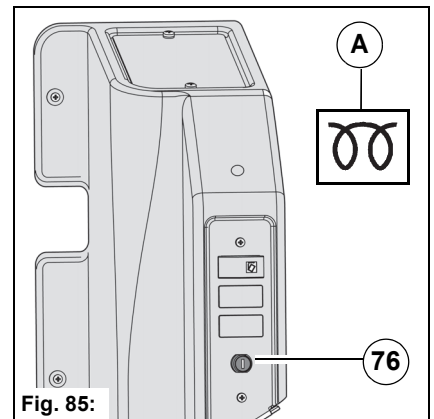

Fig. 85:
- Position 1: Preheat the engine until the control light **Fig. 85-A** goes out.